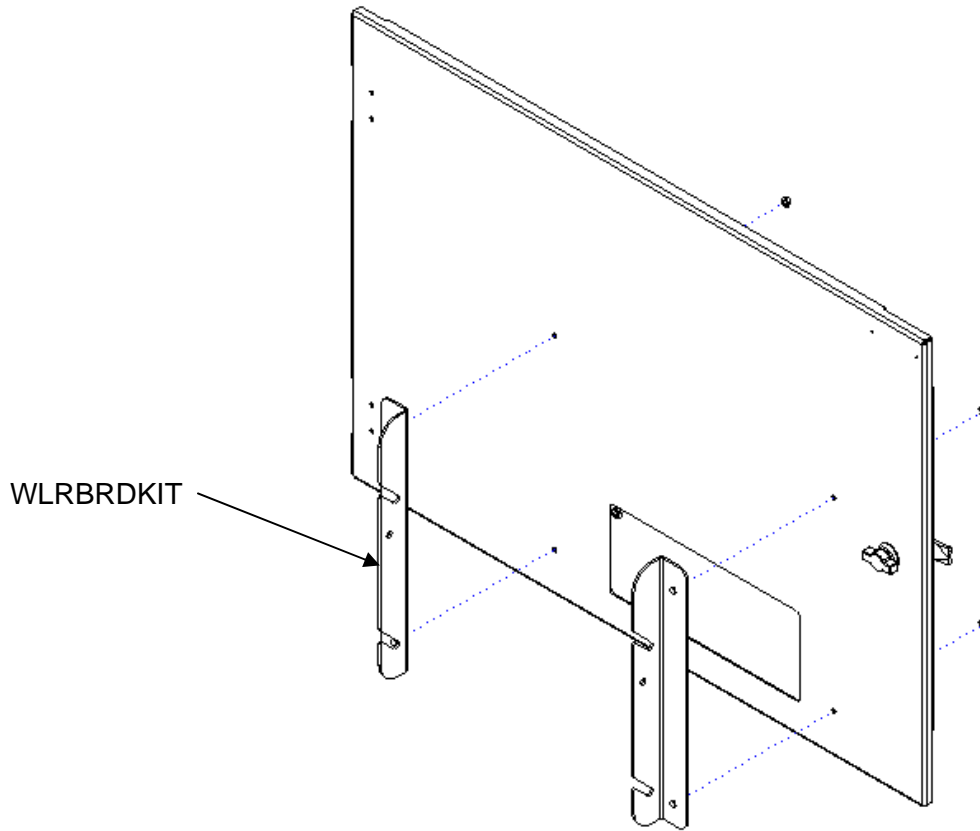

Fig. 3.6 Door Bracket Assembly
8. Assemble Door Brackets (WLRBRDKIT) as shown in Fig 3.6 with angled slots pointing up and close to opening in door.